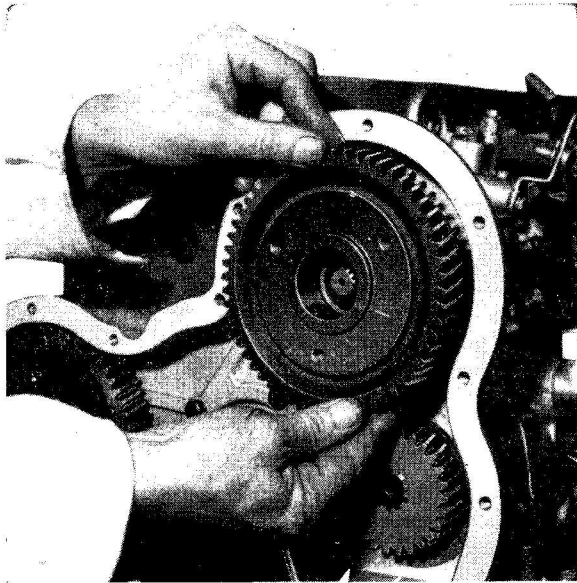

Fig. 10
4. Remove the fuel pump gear retaining circlip from the gear carrier (Fig. 9) and withdraw the gear (Fig. 10).